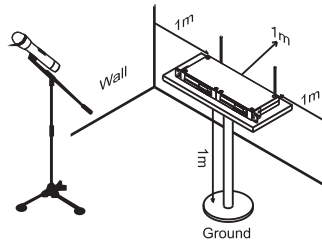

Fig. 8
- 5、 For ideal reception range, install the receiver at least 1 meter above the ground and away from EMI / RFI “noise” sources. In addition, place the transmitter at least 1 meter away from the receiving antenna, as shown. Fig. 8.